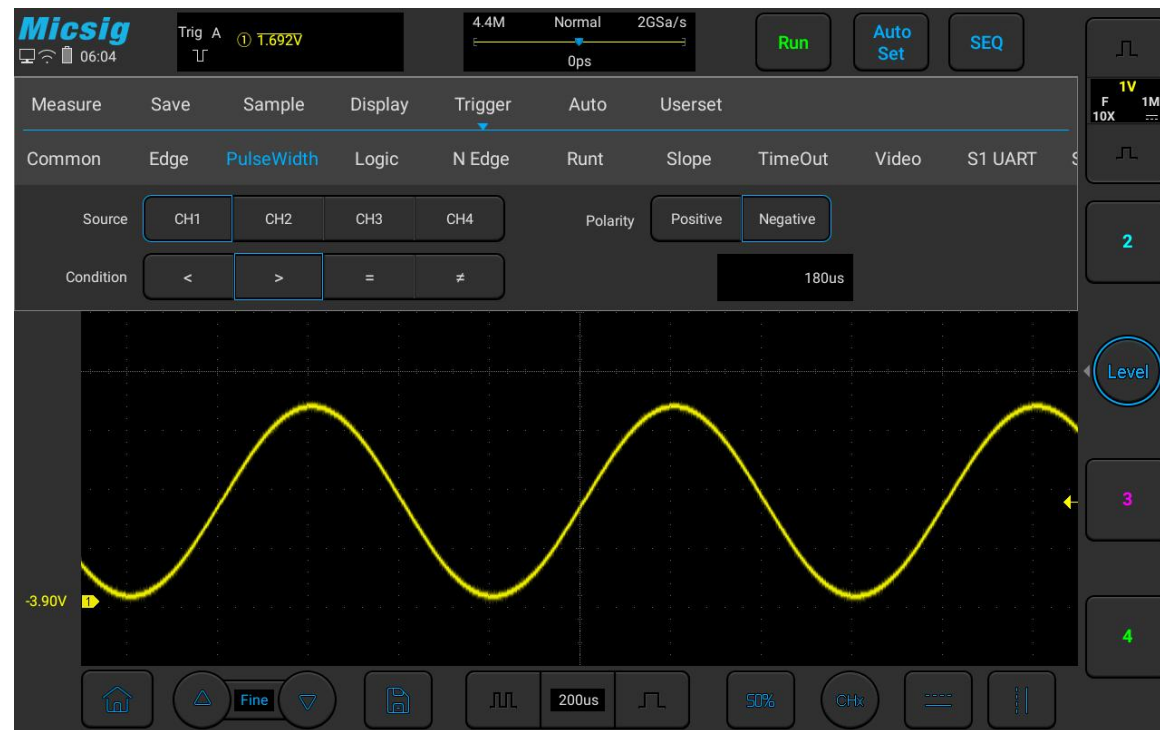

Figure 5-15 Negative Polarity Pulse Level Flip
lower than current trigger level (CH1 negative pulse indication icon $\sqcap$ ① 1.00V). When triggered on positive polarity pulse, if the restrictions are true, the trigger will happen on the high-to-low transition of the pulse; when triggered on negative polarity pulse, if the restrictions are true, the trigger will happen on the low-to-high transition. (Figure 5-15 Negative Pulse Level Flip)